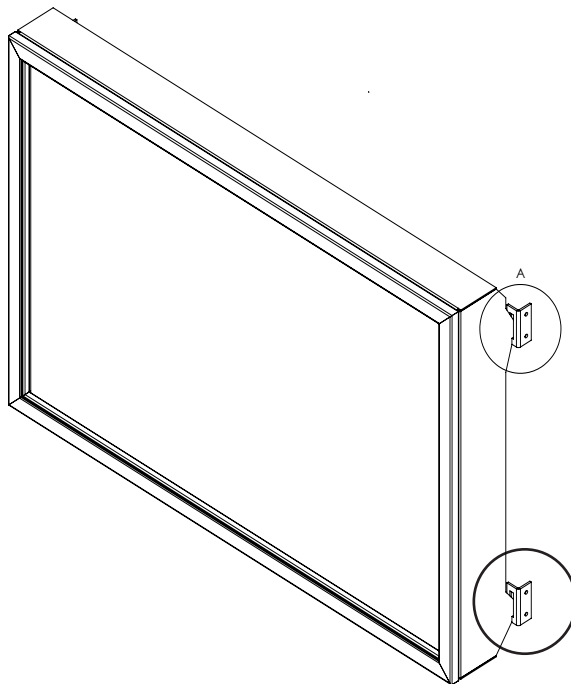

Figure 54: Installing Safety Screen onto Cabinet Bracket (Parts removed for clarity)
2. Lift the face upright in front of the fireplace with the four (4) hooks pointing towards the fireplace. Slide the hooks into the corresponding brackets on each side of the cabinet (see Figure 54). Ensure the hooks are secure before releasing the safety screen.